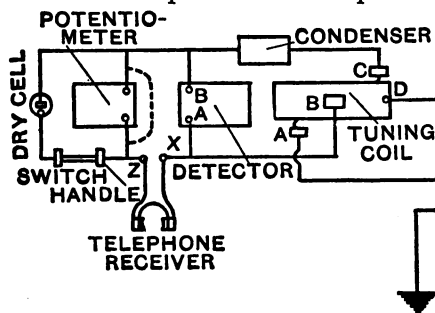

FIG. 126.—PLAN VIEW OF INSTRUMENTS ON TABLE.
**Connecting up the Apparatus.**—When you have all of the pieces of apparatus for the receptor place them on the operating table on the left-hand side of your transmitter in about the position shown in the plan view, Fig. 126 and screw them down tight.